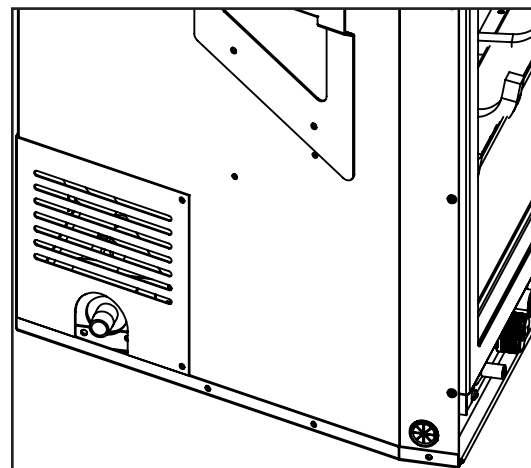

Figure 28: 3/8" NPT Male Pipe Nipple with Cover Attached.
- A 3/8" NPT male pipe nipple (supplied with the unit) will have to be turned into the valve at the lower left side rear of this fireplace (see Figures 28 and 29). Consult the local authorities for local codes or use the CAN/CGA B149 (1 or 2) installation code in Canada. In the US, gas installations follow either local codes or the current edition of the National Fuel Gas Code ANSI Z223.1.